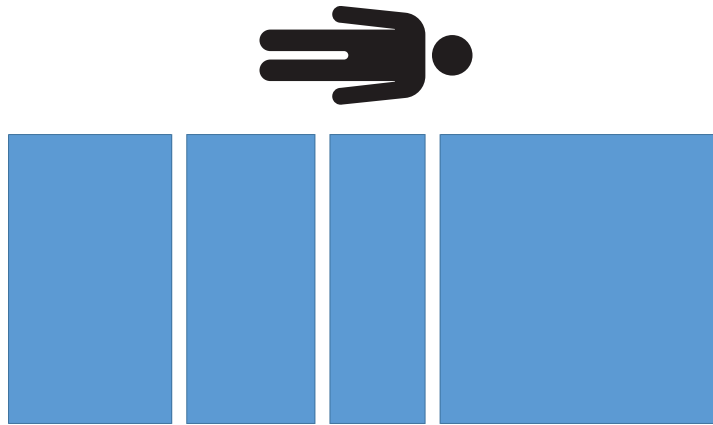

Figure 26 – Repeatability test - no weight
2. Remove all calibrated weights from the product (Figure 26).